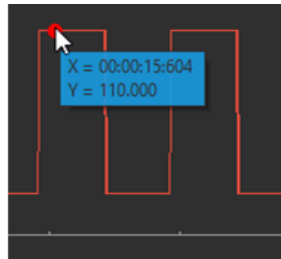

Figure 9.40: Acquisition View - Instant values
- The **Instant values** box can be activated by double-clicking the **Input graph** box and selecting **Show instant values** (Fig. 9.40). This box shows the current value detected by the console for each trace on the selected channel. This box cannot be activated on **Preview graphs**. To remove instantaneous value, double click on the dot.